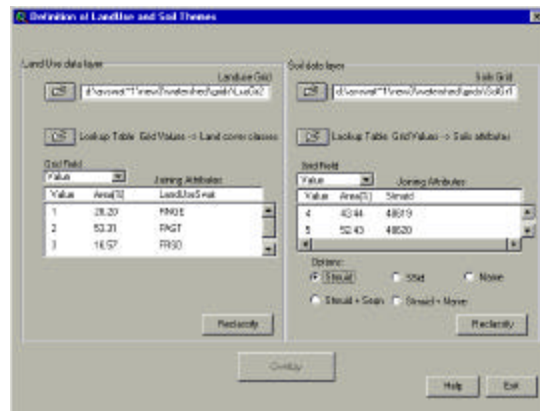

Figure 6.47
- f. The interface will insert soil joining attribute codes from the table into the list box (Figure 6.47).